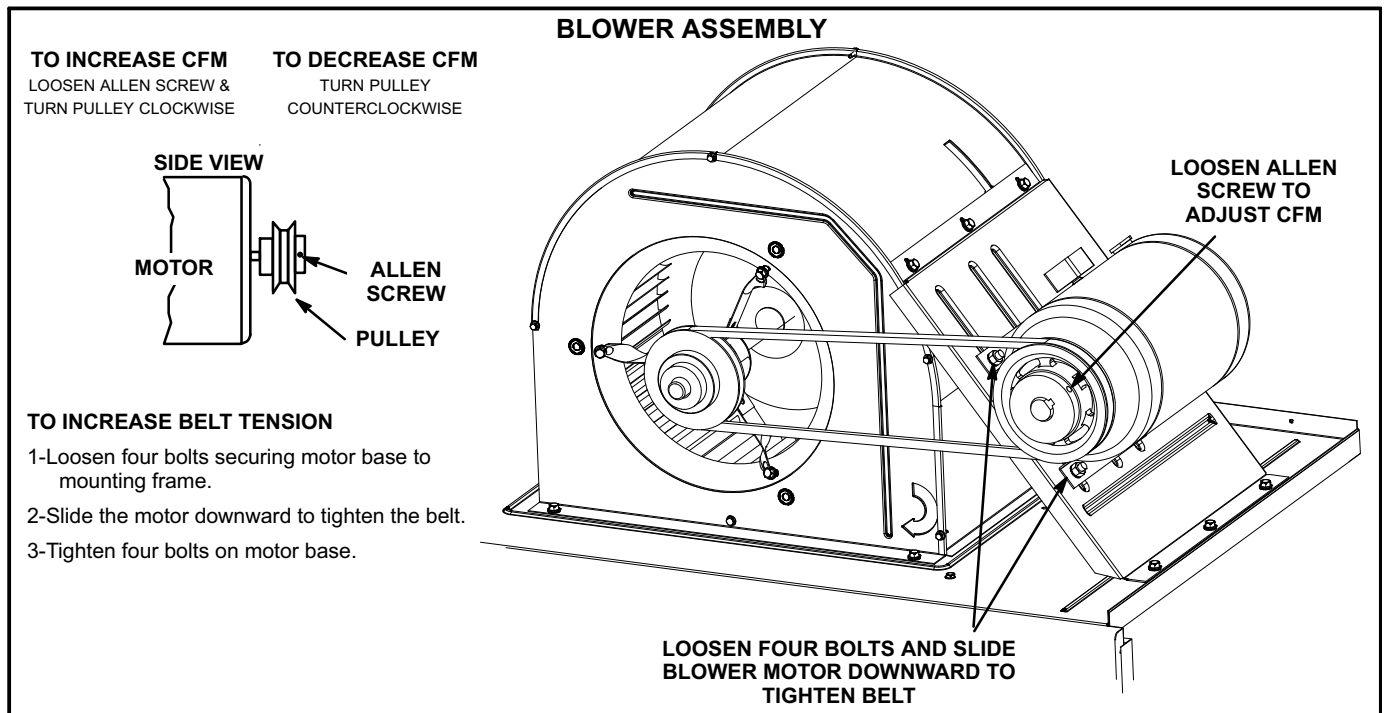

FIGURE 17
- 5- The blower RPM can be adjusted at the motor pulley. Loosen Allen screw and turn adjustable pulley clockwise to increase CFM. Turn counterclockwise to decrease CFM. See figure 17. Do not exceed minimum and maximum number of pulley turns as shown in table 3.
- 1- Loosen four bolts securing motor base to mounting frame. See figure 17.